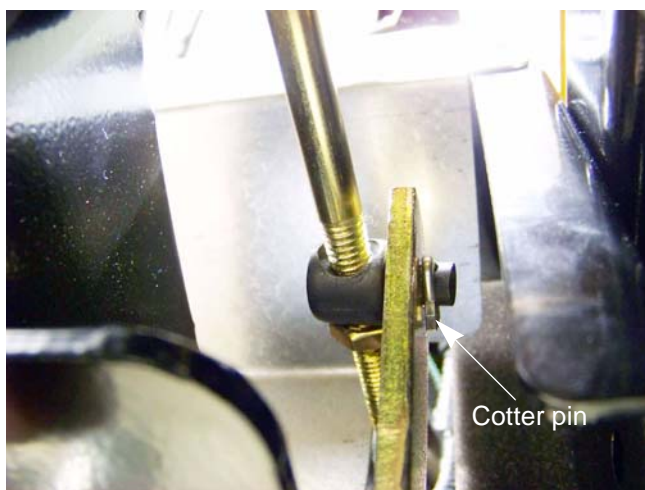

Figure 3.16
7. Disconnect the brake rod from the brake pedal shaft by removing the cotter pin and discarding it. See Figure 3.16.